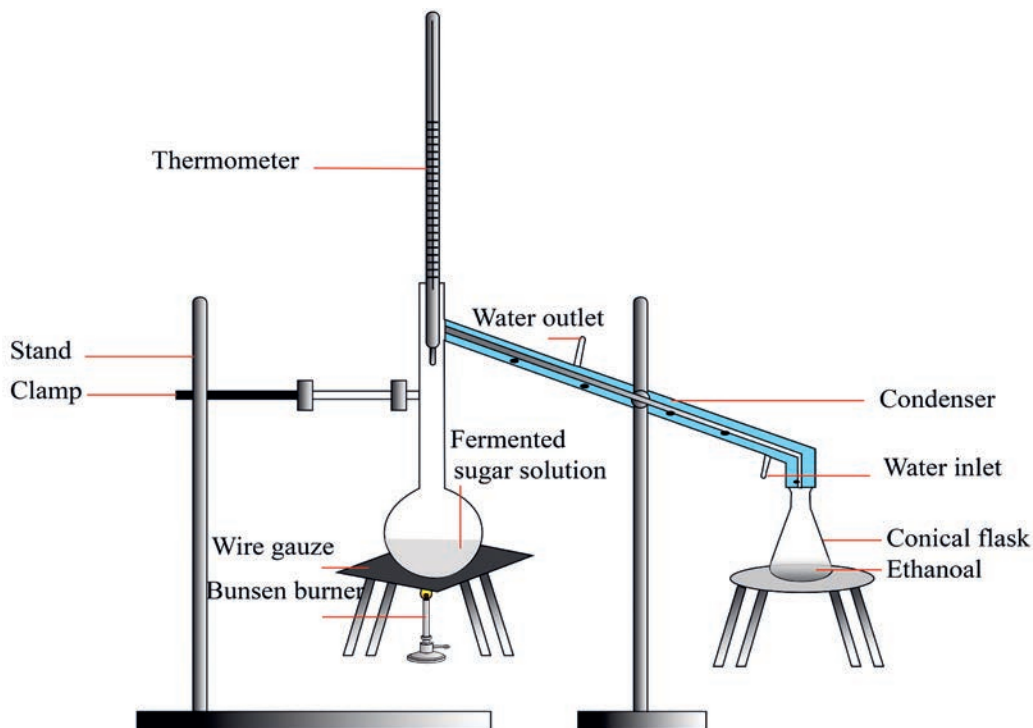

Figure 3.16: Separation of ethanol by distillation
5. After three days, filter the solution, and arrange the set up as in **Figure 3.16**. Pour 20 mL of the filtrate in to a distilling flask, heat the solution, and collect the liquid in a receiver.